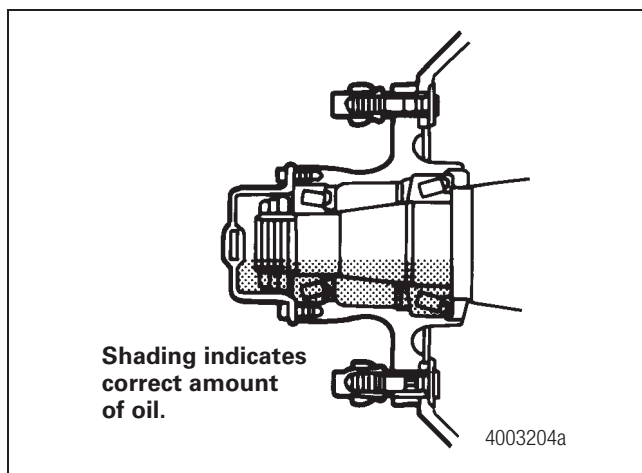

Figure 14.4
- c. Fill wheel-end with an approved gear oil to hubcap fill line. Note that oil must be given sufficient time to settle prior to final check of oil level. This is especially important in cold conditions. **Figure 14.4.**